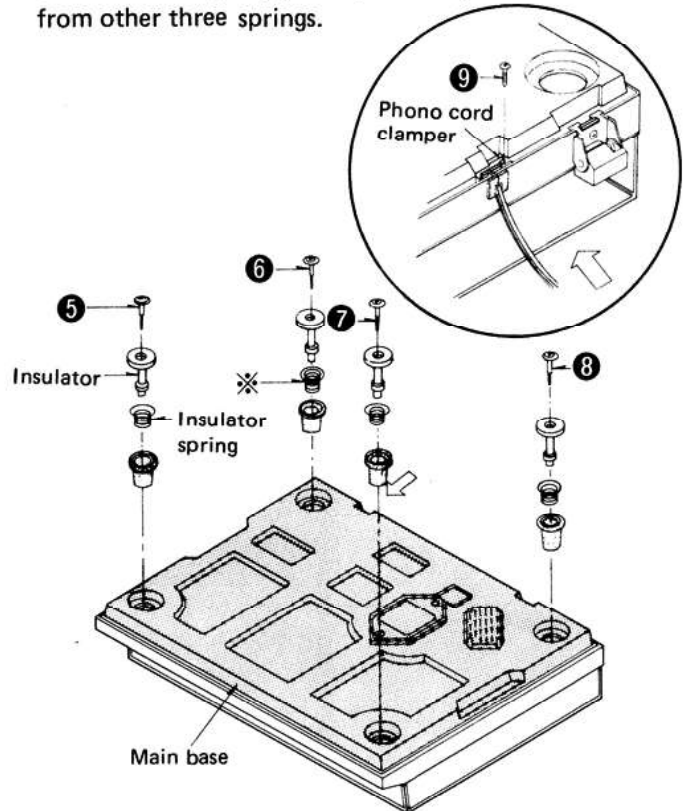

Fig. 2
5. Remove the insulator setscrews ⑤ ~ ⑧ and phono cord clamber setscrew ⑨. (See Fig. 2)